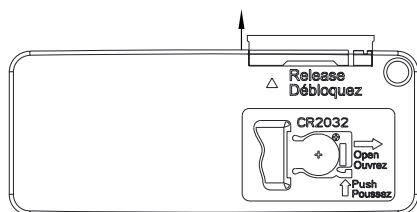

Fig. 1
2. Extract the insulated slice, and use the remote to control the effect. (Fig.1)